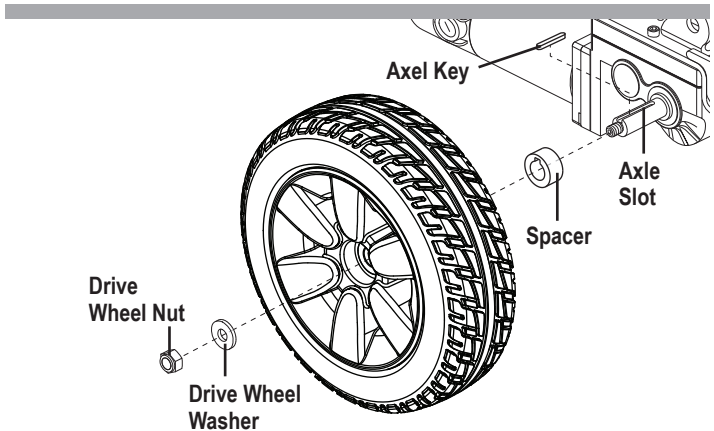

Figure 24. Solid Drive Wheel Removal
6. If you are replacing a solid tire, remove the spacer. See figure 24.